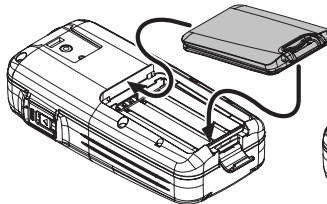
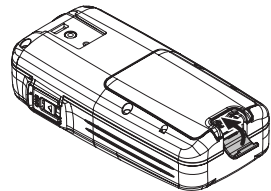

FIGURE 3
FIGURE 4
- ❑ Replace the Battery Cover to the radio (Figure 3), then close the Battery Pack Latch until it locks in place with a “Click” (Figure 4).